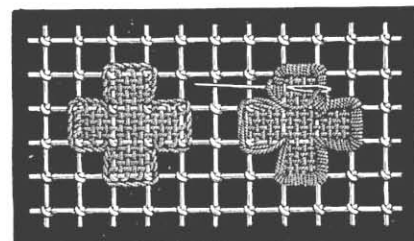

Fig. 40. Linen stitch framed with overcasting stitches.
**Linen stitch framed with overcasting stitches** (fig. 40). — Linen stitch is often bordered or framed with overcasting stitches. In this case you can either lay a foundation thread all